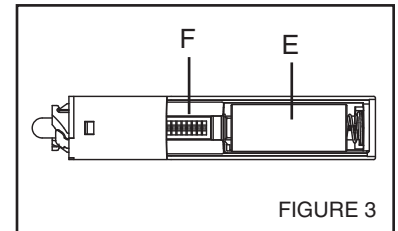

FIGURE 3
2. Install battery (E) into wireless pushbutton. (Figure 3)
- a. **Confirm that code settings on chime mechanism and wireless pushbutton are the same.** Jumpers (G) installed on numbered contacts or switches (H) on chime mechanism must match switch (F) positions on wireless pushbutton. (Figures 3, 6 & 7)
- b. Verify proper installation batteries in chime mechanism and pushbutton. (Figure 3)